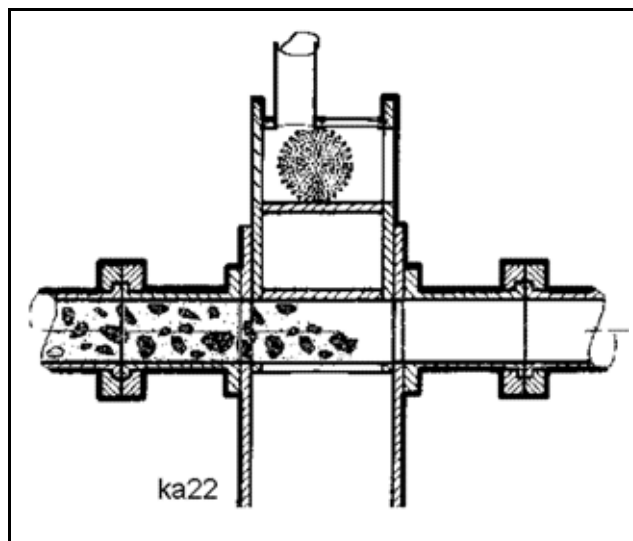

Fig. 468
- Place a soft cleaning ball into the chamber as described above (**Fig. 468**).